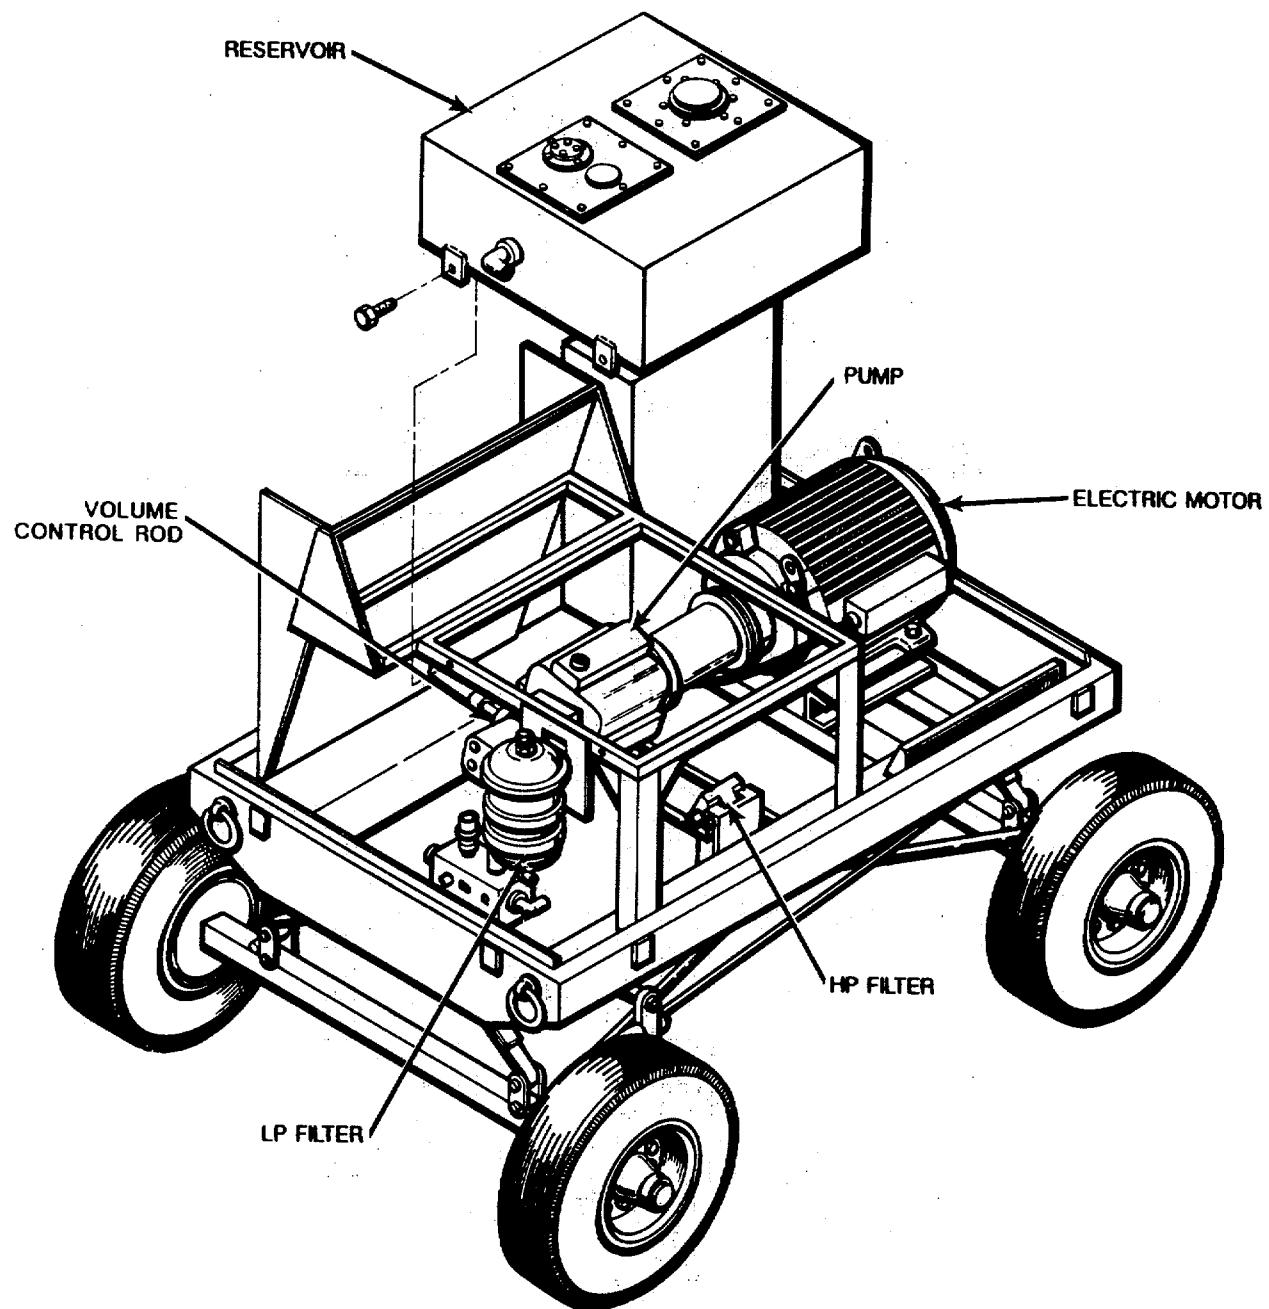

Figure 1-2. Test Stand Hydraulic System Electric Motor Drive, Type D-6A Major Internal Components
- b. The test stand is mounted on a four wheel trailer and is completely mobile. It may be towed at speeds up to 20 mph over improved roads or surfaces; 10 MPH over rough terrain. The unit is air transportable. It has been designed to withstand the gravitational forces which might be encountered in normal flight. The stand weight is 3060 pounds (wet). To familiarize using personnel with the equipment characteristics and physical makeup, a table of equipment data is presented in Table 1-1 and some of the major components are identified in Figure 1-2.
1-13. Electric Motor. Power is supplied by a 20 horsepower, 220/440 volt, 3-phase, 60 hertz, electric motor (Figure 1-2 and Figure 1-5).
1-18. High Pressure Filter. A filter (Figure 1-2) is located in the high pressure output line. A micronic filter element within the filter gives the pressurized fluid a final cleaning before outlet to the aircraft. A warning light on the operator's control panel indicates high differential pressure between the filter inlet and outlet. Should a filter element become clogged, the warning light will come on.
1-19. Low Pressure Filter. A low pressure filter (Figure 1-2) is incorporated in the outlet line from the system boost pump. The filter cleans hydraulic fluid before it enters the high pressure pump section. The filter housing incorporates a drain plug, a filling port, and an air bleed valve which can be opened (using a screwdriver) to release entrapped air.